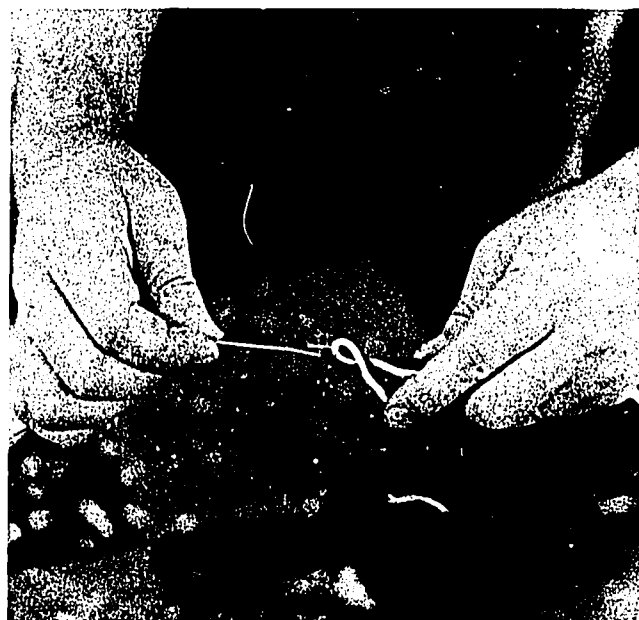

Fig. 53-9. Hooking T.W. Wires to Fish Tape
3. Fasten all three wires to the tape as in Fig. 53-9.